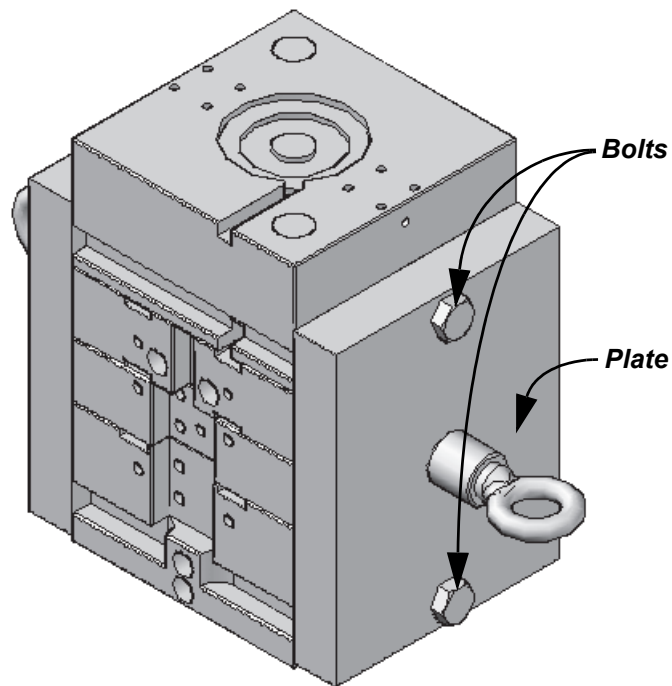

Figure 7–16
In this practice you will check the interference between several parts of an assembly, as shown in Figure 7–16.
5. The highlighted areas display the interference, as shown in Figure 7–17.